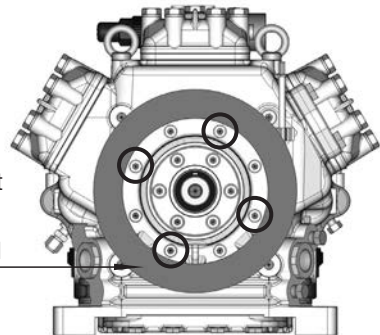

Fig. 8
- Slide the magnetic field to a snug fit and re-attach using the four cheese head screws M8 (Fig. 8). Screw torque = 37 Nm.